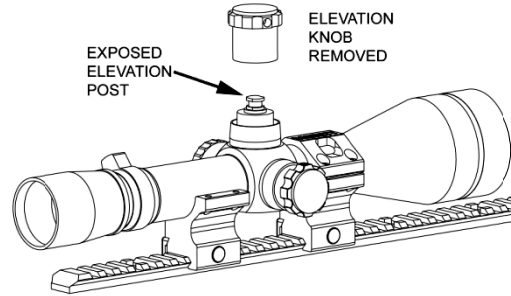

Figure 2-4
3. Adjust the elevation knob to the highest setting, then remove the Leupold elevation knob (3/32in. Allen wrench) to expose the elevation adjustment post. Figure 2-4.